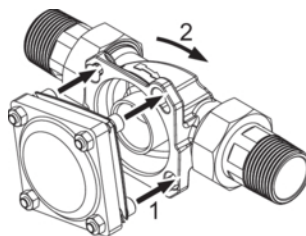
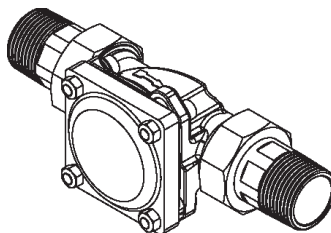

Fig. 4: Attach and engage appliance
Fig. 5: Connection of appliance engaged
- 1. Insert the heads of the four flange screws through the bayonet holes on the rotary flange fitting (see Figure 4).
- 2. Turn the device in clockwise direction up to the stop (see Figure 4 and Figure 5).